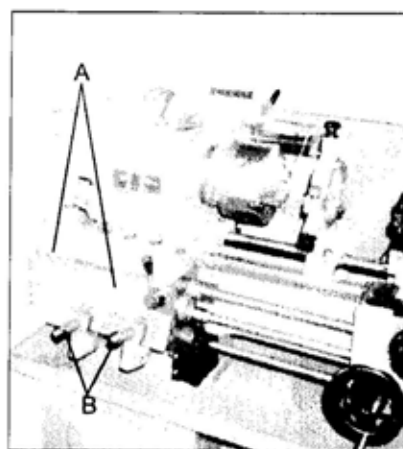

Fig. 17
1. Reference the feed and thread tables (A, Fig.17) found on the gearbox and change gear cover.
2. Mover levers (B, Fig. 17) to the appropriate detent position.